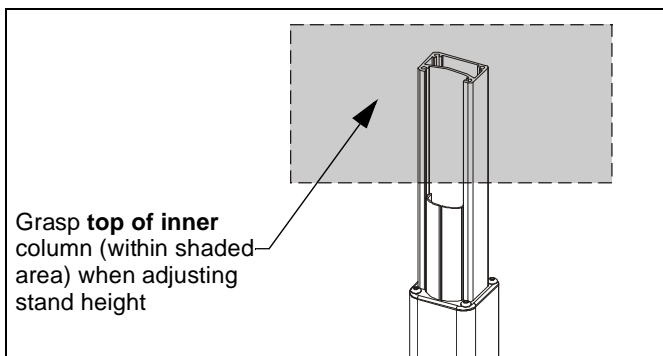

Figure 6
1. Firmly grasp **top** of **inner** column. (See Figure 6)
IMPORTANT ! : Firmly grasp at the **top** of the **inner** column when adjusting stand height. (See Figure 6)